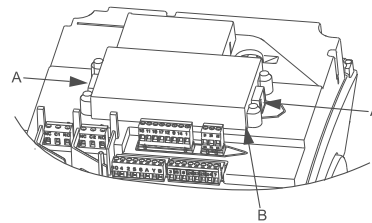

Fig. 23 Lifting the plastic cover
3. Press and hold in the two locking tabs (fig. 23, A) while gently lifting the plastic cover (fig. 23, B).